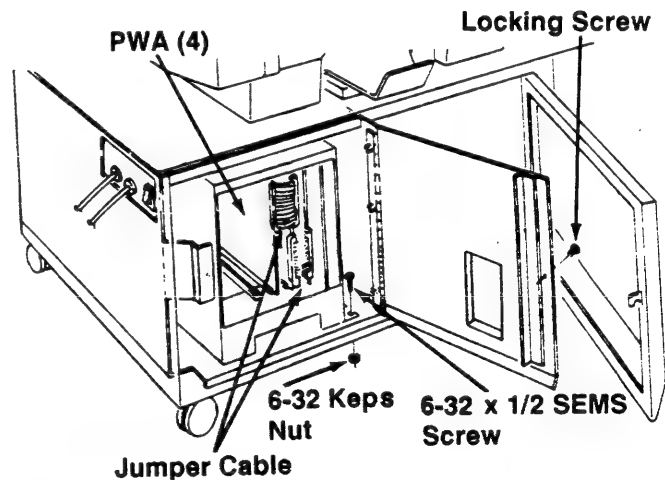

Figure 2-3.1G
21. Remove the Locking Screw securing the Card Cage Door (Figure 2-3.1G) and open the door.
22. Install a 6-32 x 1/2 in. Screw (Item 24) and 6-32 Keps Nut (Item 25) on the right side of the Page Search Module into the Base of the Workstation (Figure 2-3.1G).